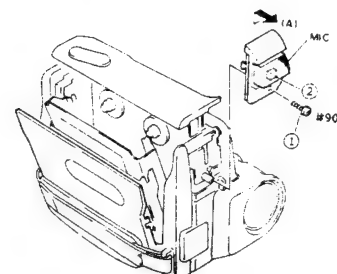
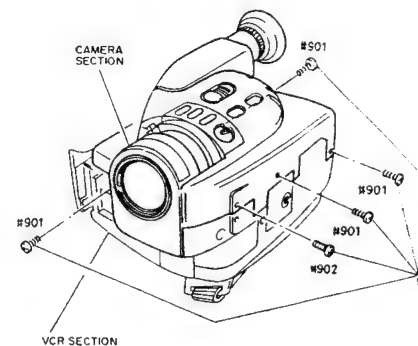
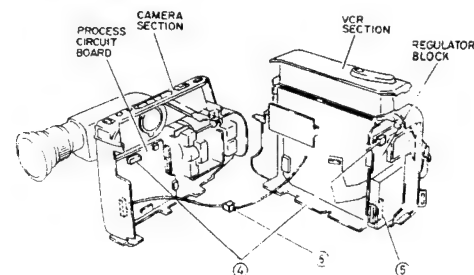
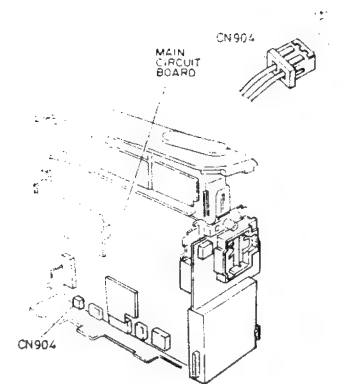

Fig. 2-11
Fig. 2-12
Fig. 2-13
Fig. 2-14
- 1) Remove one (1) screw holding the microphone (MIC). (See Fig. 2-11)
- 2) Remove the MIC in the direction of arrow (A) and disconnect one (1) connector (CN014) on the MIC.
- 3) Remove five (5) screws holding the camera section and VTR section. (See Fig. 2-12)
- 4) Disconnect two (2) connectors (CN515, CN903) on the regulator block and
- Process circuit board. (See Fig. 2-13)
- 5) Disconnect one (1) flat cable (CM1216) from the regulator block.
- If an electric circuit system defective, disconnect connector CN904 from the main circuit board and apply 3V DC to the connector (female). Unloading can now be done. (See Fig. 2-14)
- 7) Remove the DC power supply DC37 from CN904. (See Fig. 2-14)